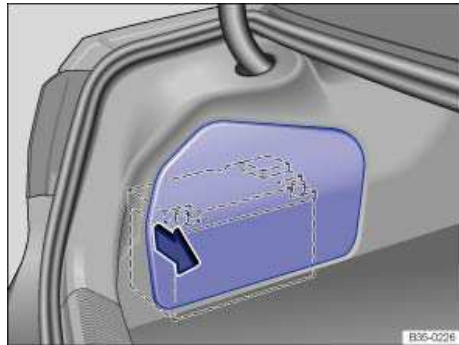

Fig. 166 In the luggage compartment: On vehicles with a 3.6 liter engine, the vehicle battery is on the left side of the luggage compartment.
- *Vehicles with 3.6 liter engines:* Remove the trim panel to access the vehicle battery ⇒ fig. 166.